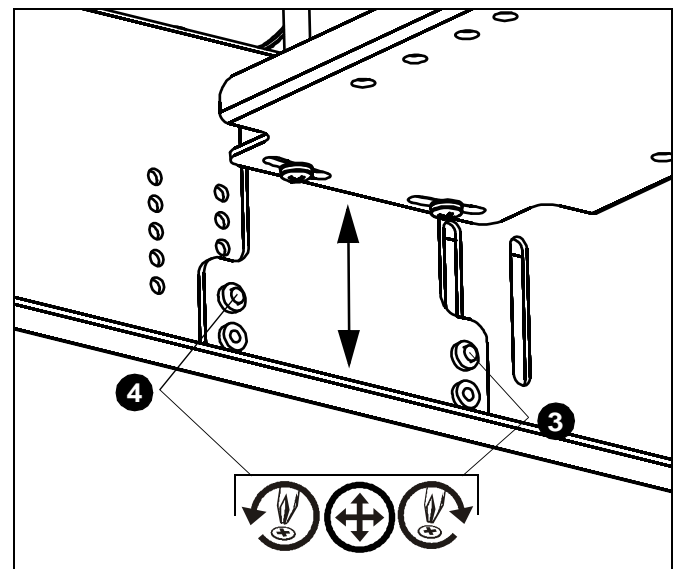

Figure 12
- Reinstall and tighten screws. (See Figure 12)
- Adjust and tighten screws on bracket. (See Figure 12)